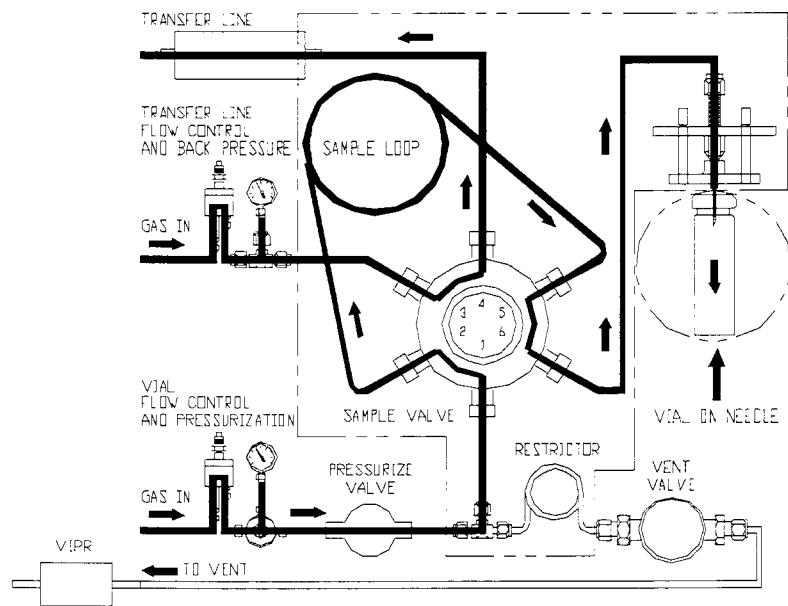

Figure 5-6 7000 Flow in Vial Pressurization Mode
- The pressure within the vial is used to expand the headspace atmosphere into the loop and out of the vent before injection (see Figure 5-6). For maximum precision, there must be enough pressure in the vial to flush the sample loop with *at least twice the sample loop's volume*.